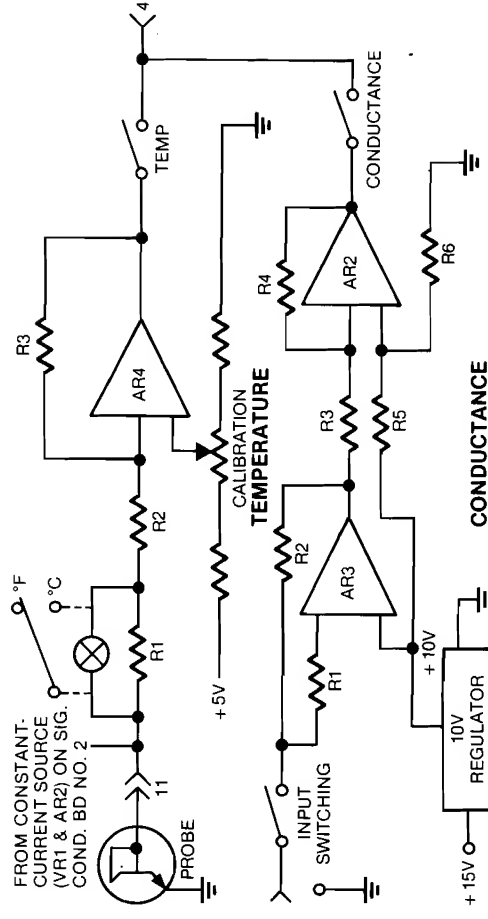

Figure 3-4. Simplified Schematic Diagram - Temperature and Conductance
stant-current source (from Signal Conditioning Board No. 2) to the transistor temperature probe. Figure 3-4 outlines the basic temperature measuring circuit. Since the voltage across the transistor probe varies with temperature, a voltage change proportional to probe temperature is generated. Amplifier AR4 is driven by the voltage through resistors R1 and R2. Amplifier gain is set by the ratio of feedback resistor R3 to R1 and R2. Degrees Fahrenheit or Celsius may be selected, the logic switching R1 in or out of the circuit, adjusting circuit offset gain to compensate for Fahrenheit or Celsius readings.
- 3-36. The basic conductance circuit is comprised of operational amplifiers AR2, AR3 and a +10V regulator (figure 3-4). One input of AR3 is held at +10V, while its output is fed back to its second input through R1 and R2. Operational amplifier AR2 operates as a differential amplifier, receiving a balanced DC input from the +10V regulator through R5 and from the output of AR3 via R3. Any leakage to ground at the junction of R1-R2 in the feedback loop around AR3 unbalances the input to AR2. The resulting output is a voltage proportional to the leakage in nanosiemens or kilomegohms.